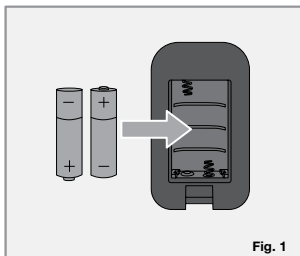

Fig. 1
- Insert the batteries according to polarity and replace the **battery cover door** (Fig. 1).